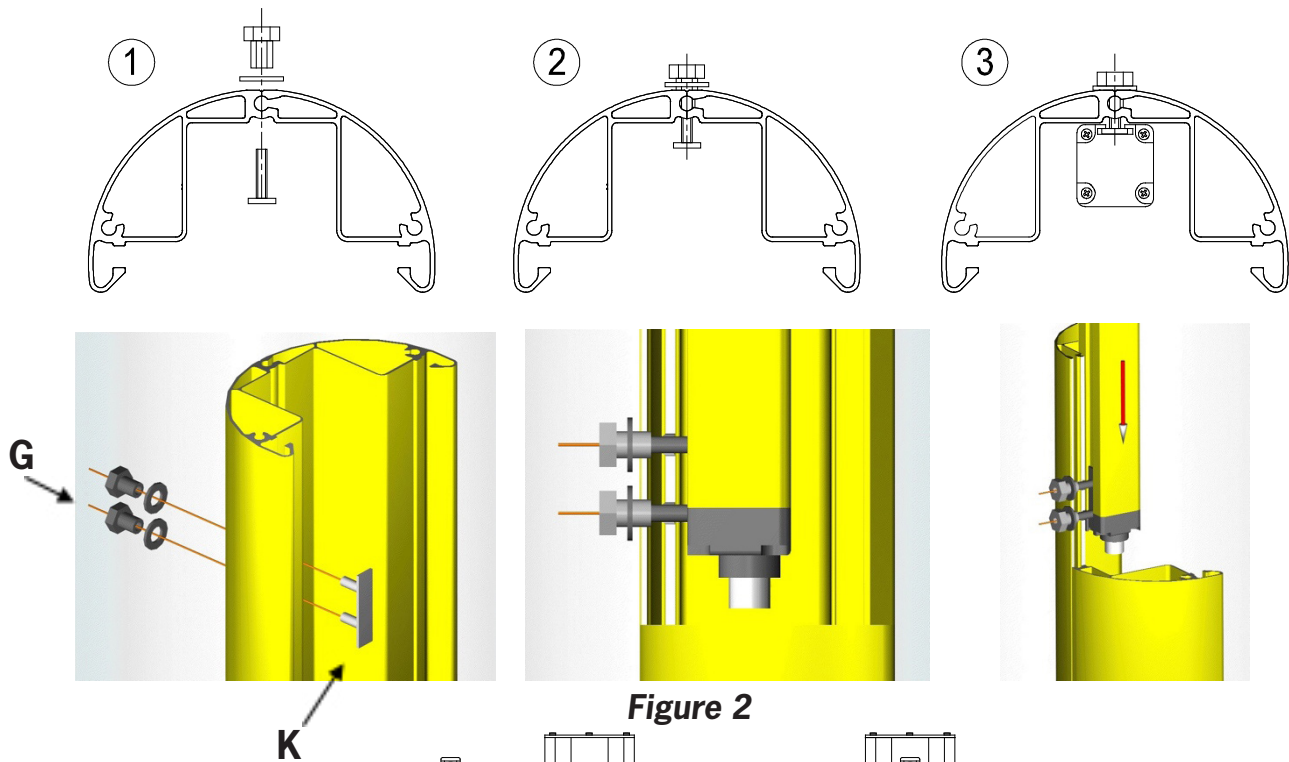

Figure 2
2. Insert the hexagon head screws (**G**) with the mounting insert (**K**) in the bores in the pillar. **Fig. 2, step 1;**
3. Temporarily fit the hexagon head screws to the inserts with one turn. **Fig. 2, step 2;**
4. Guide the light curtain from above onto the mounting pillar. Make sure all fastening inserts fitted previously are positioned in the openings on the light curtain. **Fig. 2, step 3.**